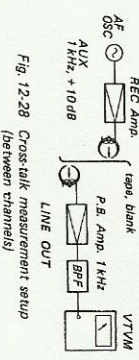

Fig. 12-28 Cross-talk measurement setup (between channels)
- Connection: As shown in Fig. 12-28.